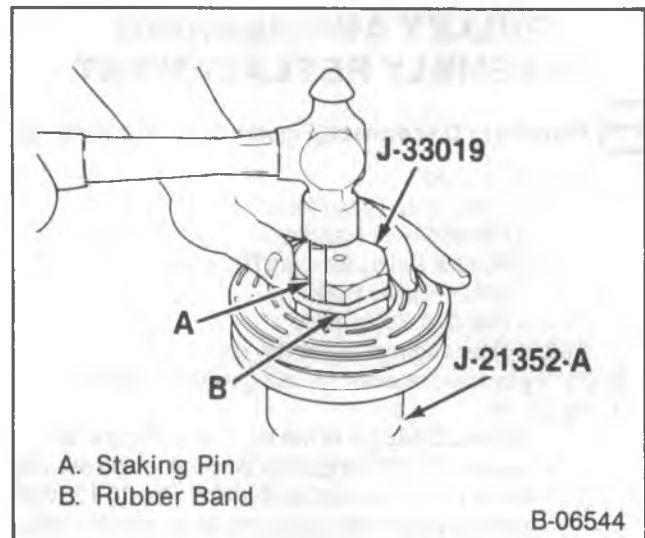

Figure 14 — Staking the Pulley Bearing in the Rotor Bore
- J 33019-1 in the pulley bore (figure 14).